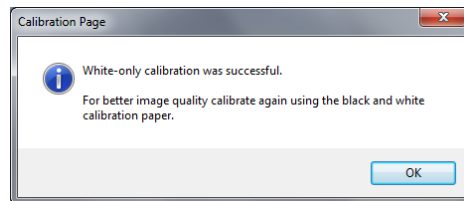

Fig. 17
- e) Should you misplace or forget the black and white calibration paper that was included with your scanner, please visit [www.inuvio.com/service](http://www.inuvio.com/service) for scanning supplies or to print calibration sheets. Alternately, you can use a plain white piece of paper (the brighter the “white” the better). Simply cut or fold the printed calibration sheet or white paper to the proper size and insert the folded edge into the scanner first when calibrating. If using a white piece of paper, an alternate message indicating successful calibration will be displayed (Fig.17).